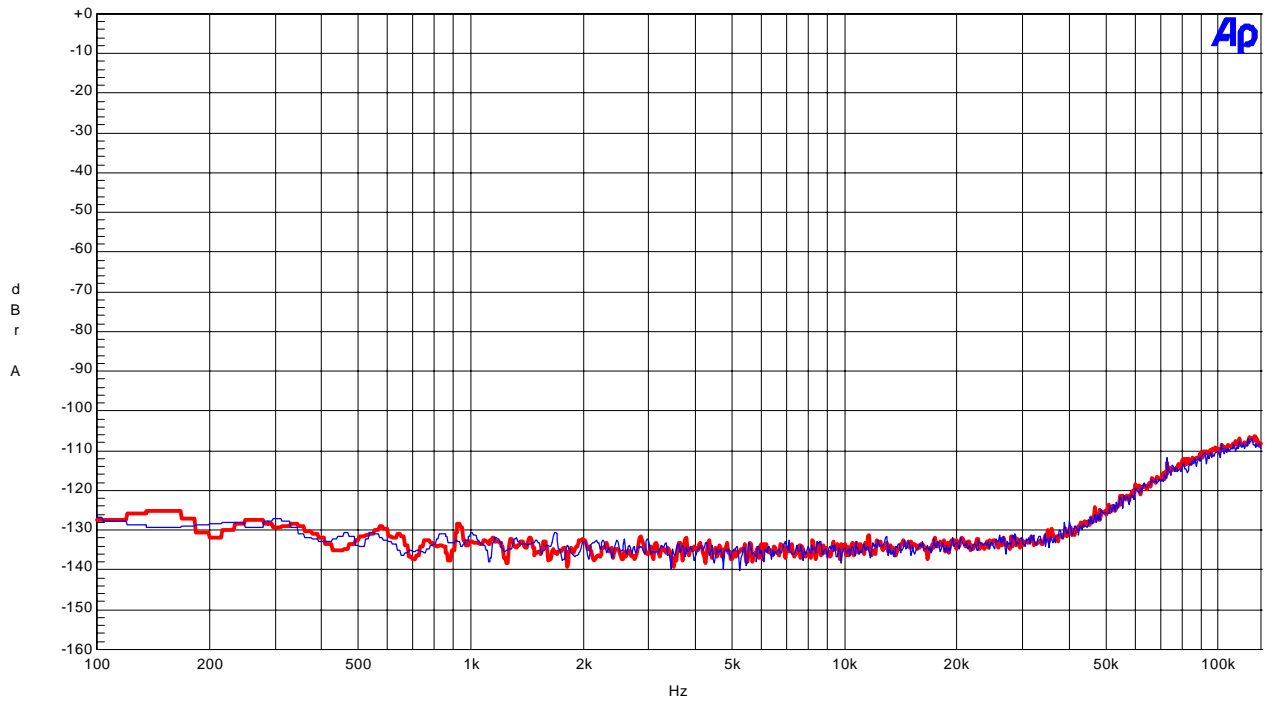

Figure 13. FFT (Out-of-band noise)
- Figure 13. FFT (Out-of-band noise)